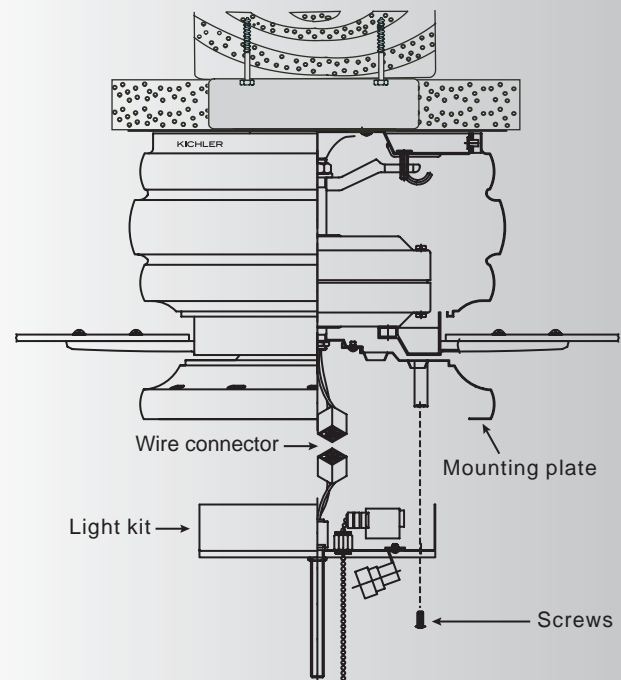

Fig. 14
2. Carefully push all wires back into the mounting plate, then install the light kit onto the mounting plate with 3 screws provided. Be sure to tighten all screws. (Fig. 14)